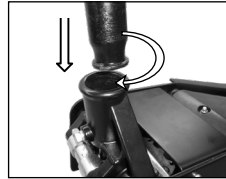

fig 3.
3. Slide the handle assembly into the handle base [4]. The handle assembly will be required to be slowly twisted for the hex shaped drive of the release valve to engaged into the handle assembly slot [fig.3].